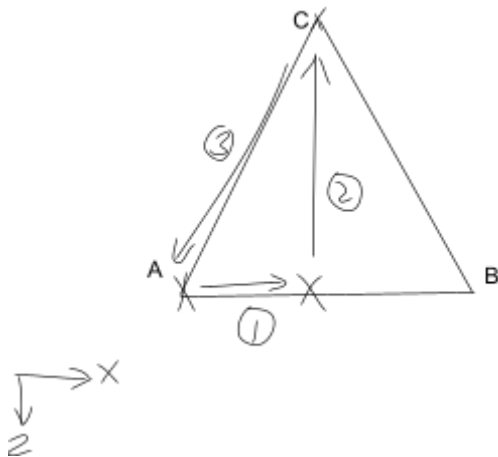

Figure 11 : Points marked in the view of camera
1. Mark another point C which will form a shape as shown in figure 11.